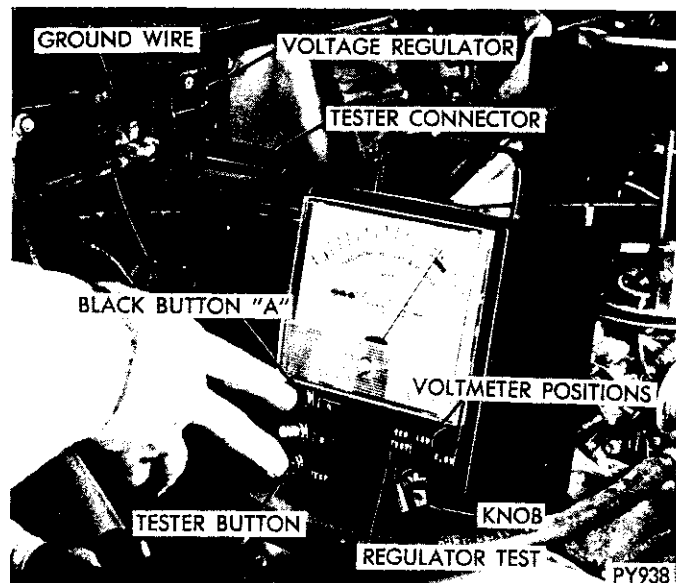

Fig. 6—Voltage Regulator Test (Depressing Test Button and Black Button "A")
(1) Remove connector from Electronic Voltage Regulator on vehicle.
(2) Plug in power cord of Voltage Regulator Tester to 110 Volt A.C. 60 cycle source.
(3) Connect the ground wire from the voltage regulator tester to a good body ground near the voltage regulator (at voltage regulator mounting screw Figs. 6 and 7).
(7) While holding the test button in, depress **Black Button (A)** (Fig. 6), the meter reading should remain within the limits of step 6.